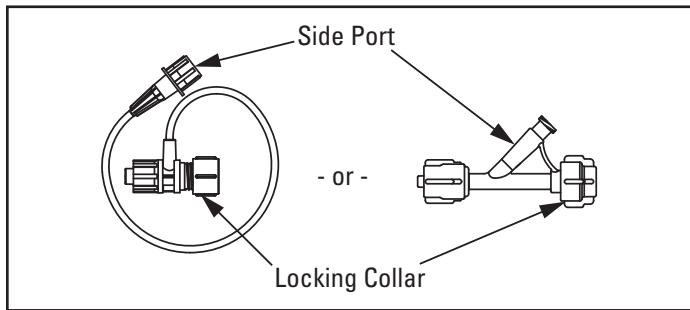

Figure 2. Flush Assemblies
6. Attach flush assembly to catheter hub. Ensure locking collar is in open position (Figure 2).